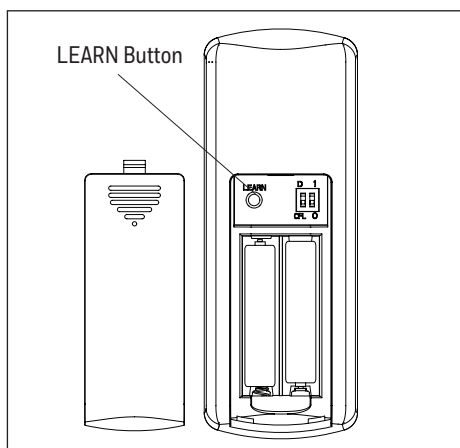

Figure 7.2
2. LEARN: Syncs remote control to receiver (see TROUBLESHOOTING, page 11) (Figure 7.2).
Remote does not work.	1. Power surge may have cleared the memory and remote needs to be resynced to the receiver. Syncing instructions: Turn off the power at the breaker box for at least 10 seconds and then turn the power back on. Within 30 seconds, press and hold the "LEARN" button (Figure 7.2) on the back of the remote for 3 seconds. The fan will turn on at high speed and light will blink twice and stay on, signaling a successful synchronization. 2. Insert new AAA batteries in battery compartment of the wall control. 3. If there are several remote fans in proximity, turn the power off to those fans and re-sync the fan.